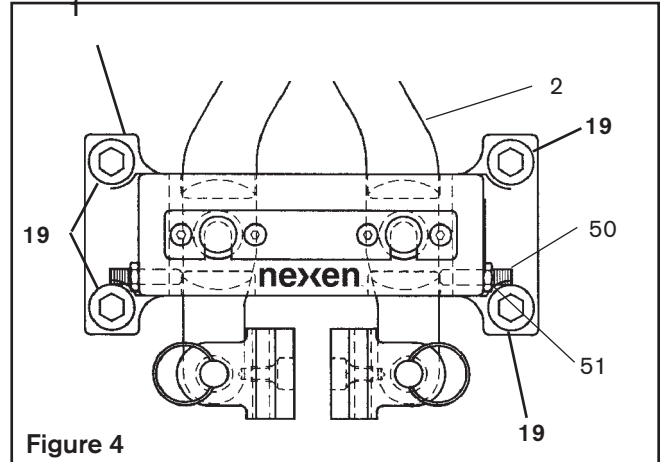

Figure 4
NOTE: Set Screws (Item 50) and Nuts (Item 51) are provided to hold Arms (Item 2) in place when the BD Caliper Brake is used on vertical shaft installations (See Figure 4).
3. Align the customer supplied support with the Main Frame (Item 1) mounting holes (See Figure 4).
If shims are used under the Main Frame (Item 1) mounting pads, care must be taken to prevent warping of the Main Frame when tightening the Cap Screws (Item 19) (See Figure 4).
5. Tighten the Cap Screws (Item 19) to 67.8 Nm [50 ft-lb] torque (See Figure 4).